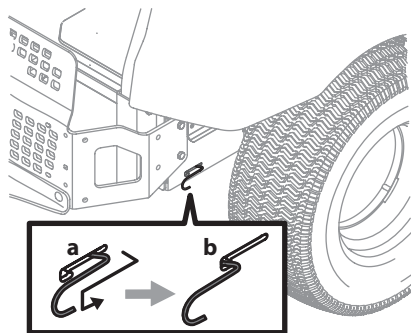
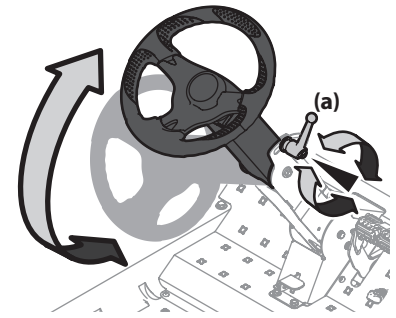

Figure 1
Figure 2
3. Align either side of the slope gauge with the object (See Figure 1 and Figure 2).
4. Adjust gauge up or down until the left corner touches the slope (See Figure 1 and Figure 2).
5. If there is a gap below the gauge, the slope is too steep for safe operation (See Figure 2 above).
1. Engage the transmission bypass rods, one on each side of the mower, to move the mower manually without starting it. The transmission bypass rods are located on the rear of the mower, just inside each rear wheel. Disengage the park brake and engage the bypass rods by pulling each one back (a) and hooking it into the slot (b) to lock it into place. See Figure 1.
2. Disengage the bypass rods by reversing Steps a & b after moving the mower. See Figure 1.
The steering wheel column is tilted all the way back for shipping purposes. To tilt the column forward, rotate the steering column adjustment lever (a) counter-clockwise, place the column in the desired position and then rotate the steering column adjustment lever (a) clockwise to secure the column in place. See Figure 2.